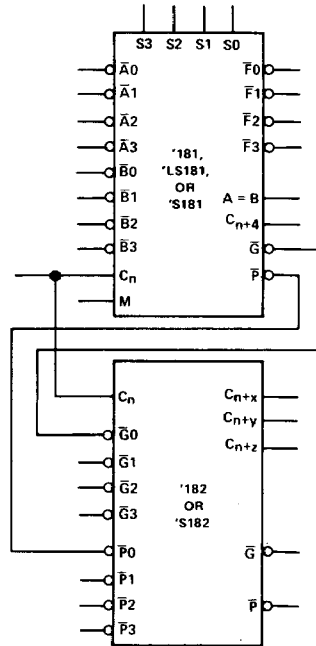

FIGURE 1
The '181, 'LS181, and 'S181 together with the '182 and 'S182 can be used with the signal designations of either Figure 1 or Figure 2. The inversion indicators (O) and the bars over the terminal letter symbols (e.g.,  $\bar{C}$ ) each indicate that the associated input or output is active with respect to the selected function of the device when that input or output is low. That is, a low at  $\bar{C}$  means "do carry" while a high means "do not carry".
The logic functions and arithmetic operations obtained with signal designations of Figure 1 are given in Table 1; those obtained with signal designations of Figure 2 are given in Table 2.